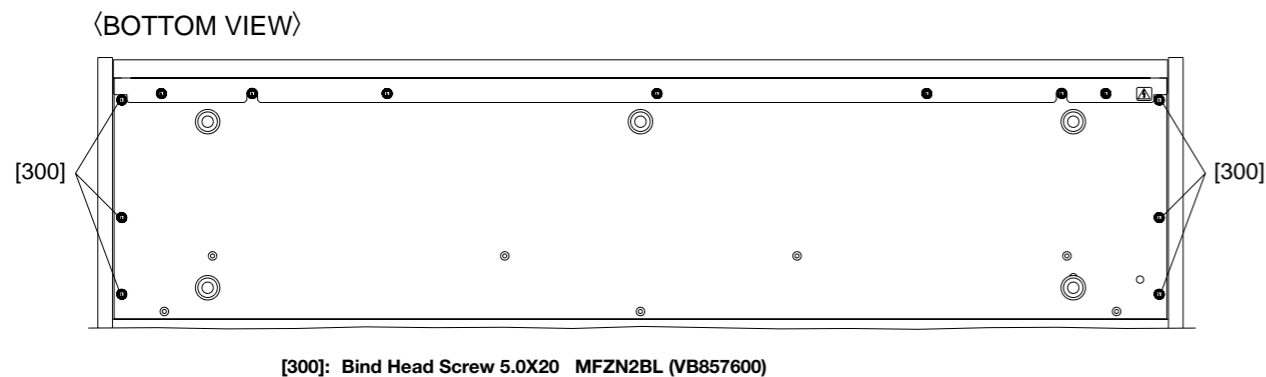

Fig.1
1. Remove the six (6) screws marked [300] from the bottom of the main unit and open the control panel assembly by lifting it up. (Fig. 1)